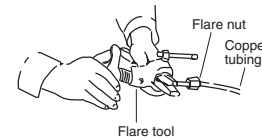

Fig. 7-3
(4) Make a flare at the end of the copper tube with a flare tool. (Fig. 7-3)